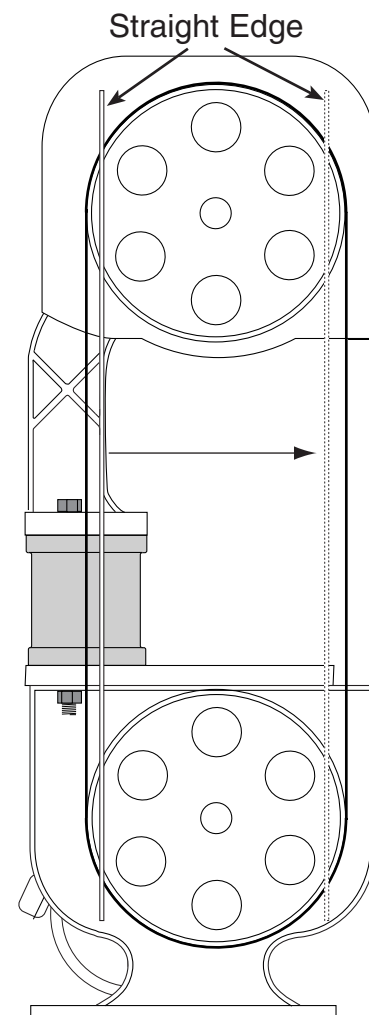

Figure 2. Straight edge in use.
7. Remove the table (see the Manual Instructions regarding "Table"). Roughly align the upper and lower wheels by laying a straight edge across both wheels **See Figure 2**. Tighten the bolt until it is tight, then loosen it $\frac{1}{4}$ to $\frac{1}{2}$ turn.